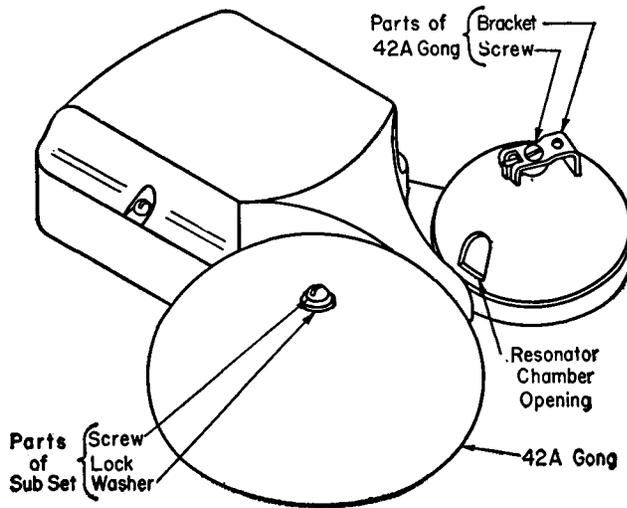

Fig. 5—Method of Assembling 42A Gong to 592-Type Subscriber Set
3.08 While the 592-type subscriber set is normally equipped with 26B (3 inch) gongs, 42A (4 inch) gongs may be used with it when a louder signal is desired. These gongs are mounted on the set by means of the extension brackets, which are provided with the gongs, in the manner shown in Fig. 5.